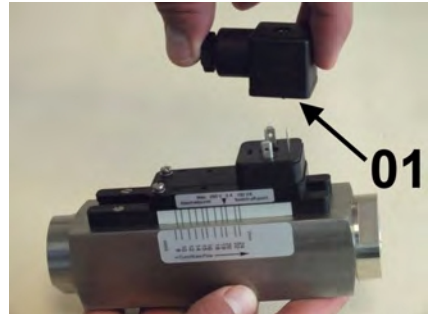

Fig. 60: Remove female socket
- 2.** ▶ Remove the female socket and gasket (Fig. 60/01) by pulling upwards.